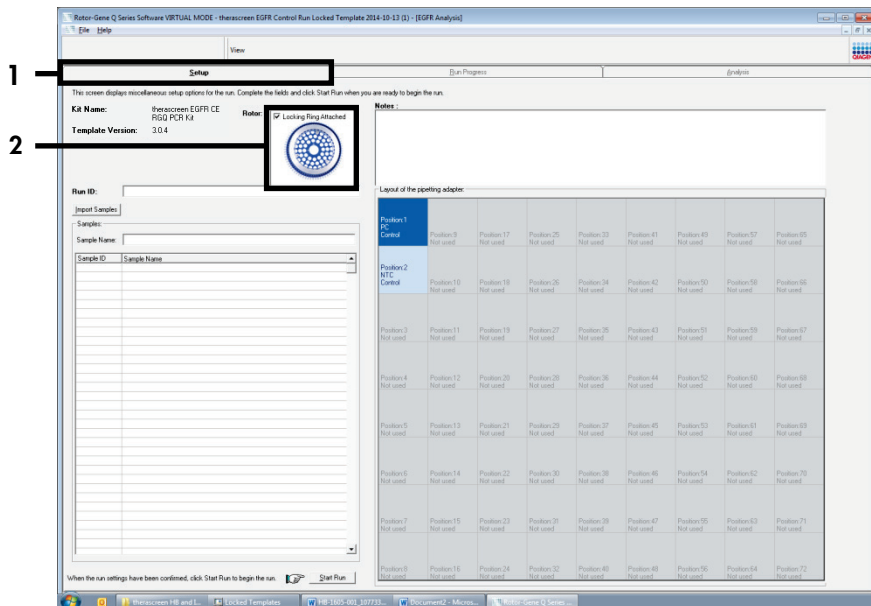

Figure 2. The “Setup” tab (1) and “Locking Ring Attached” box (2).
- The “Setup” tab opens as the default (Figure 2). Ensure that the locking ring is properly attached, then check the **Locking Ring Attached** box. Close the lid of the Rotor-Gene Q MDx 5plex HRM instrument.